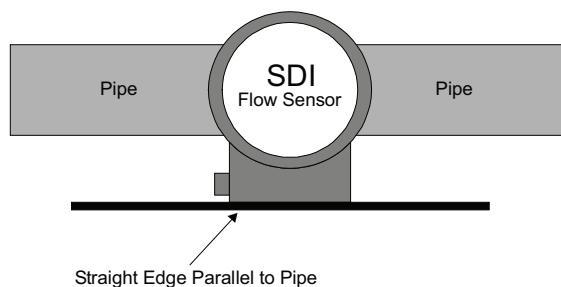

Figure 10: Level the sensor
17. Align the flow sensor with the pipe by using the flat side cover of the electronics housing as a guide. Place a straightedge along the cover and rotate the sensor until the straightedge is parallel to the pipe as shown in *Figure 10*.